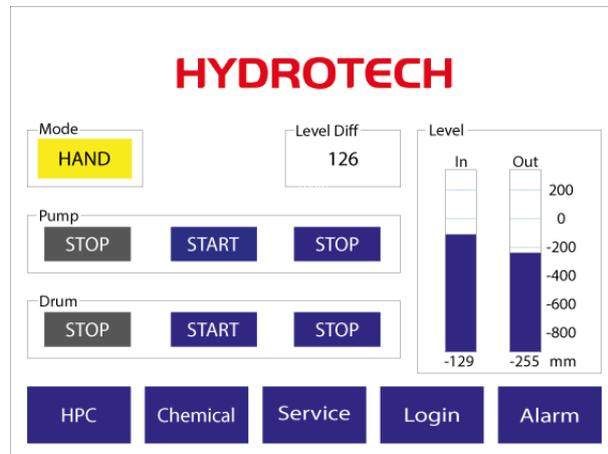

Figure 5.5 Main menu on electrical cabinet operator panel. (Indication of current backwash pressure is an option.)
2. Once the mode selector has been turned to HAND, “HAND” will be shown in the operator panel main menu, see Figure 5.5. Press the drum “Start” button, see Figure 5.5.
3. Press the pump “Start” button, see Figure 5.5.